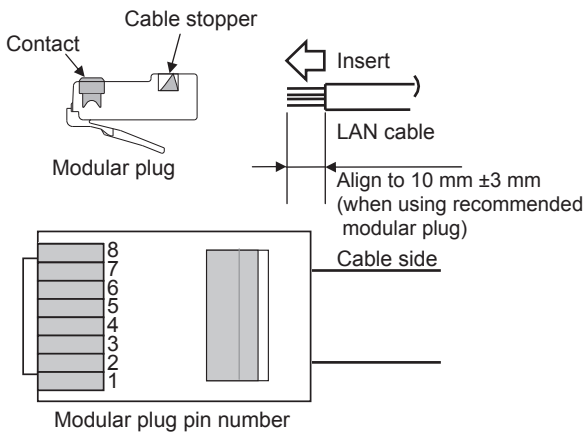

Figure 15.
- (3) Insert the aligned core wires of the LAN cable into the modular plug.
- Fig. 15 shows the modular plug with the contacts facing upward.